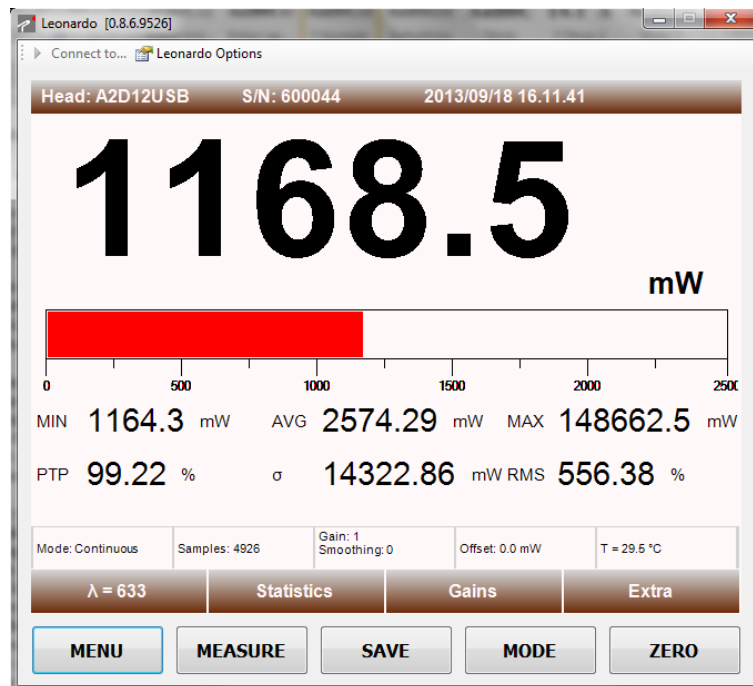

Fig.3 Initial page of *leonardo* graphic interface
Select USB as “connection mode” and the head model in use as “USB device”, then click on “next” and on “finish” as soon as its screen button is highlighted. Few seconds more (10s to 20s depending on the head type) and **leonardo** will be ready for use as soon as its initial page (Fig. 3) appears on the PC screen.
- Select USB as “connection mode” and the head model in use as “USB device”, then click on “next” and on “finish” as soon as its screen button is highlighted. Few seconds more (10s to 20s depending on the head type) and *leonardo* will be ready for use as soon as its initial page (Fig. 3) appears on the PC screen (at the first head connection the Digital display mode is automatically selected)..
Digital mode –This display mode shows the instantaneous value of the measured power in form of a large sized number shown as per the selected resolution of decimal digits; this display mode features also a coloured bar representing the measured value as a proportional fraction of the sensor head full scale or of the modified scale set by the user (refer to the paragraph **Scale setting** further ahead in this chapter). Statistical information about all the measured samples is also given in the lower half of the display (an example of digital display mode is given in Fig. 3).